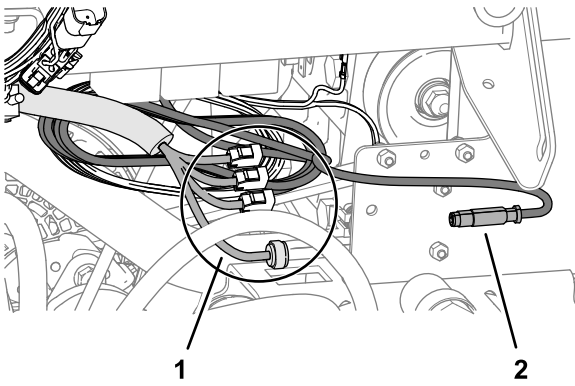

Figure 64
4. Align the 4-pin connector labeled ETHERNET CL-55 of the modem data harness near the 4 connectors for the modem-antenna harness as shown in Figure 64.